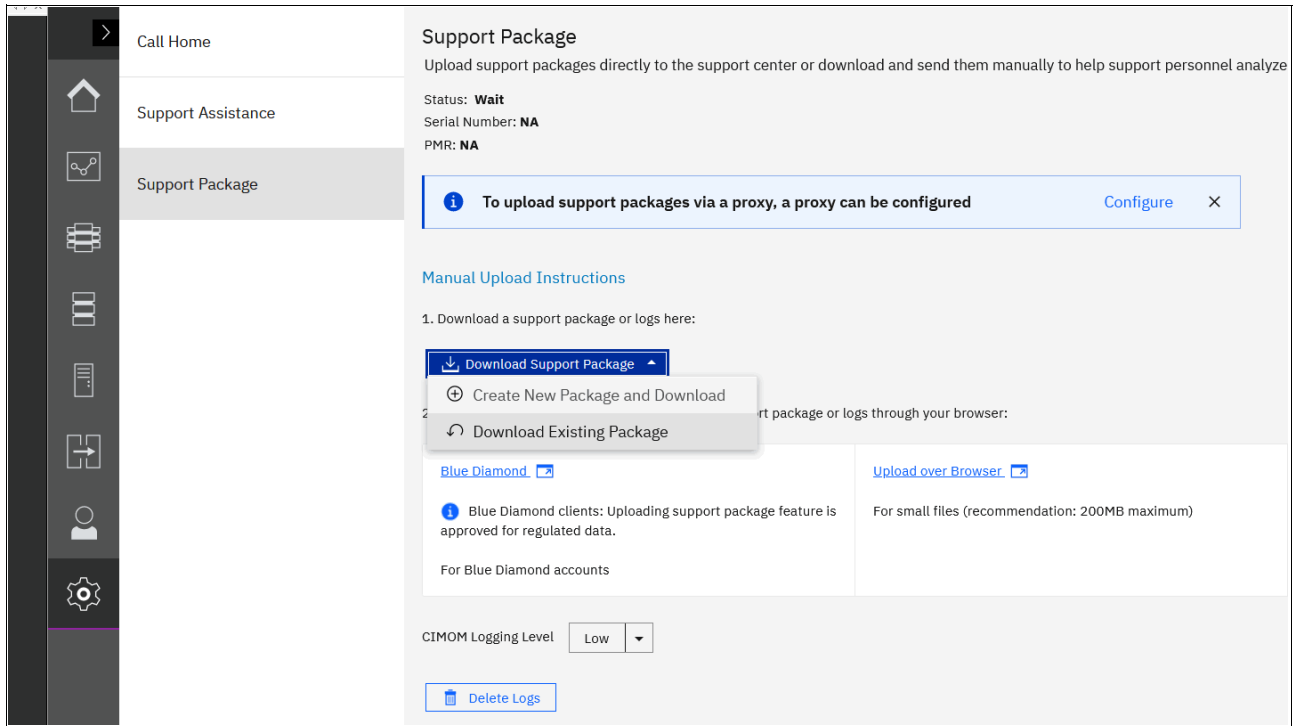

Figure 13-12 Download Existing Package
3. Click **Download Existing Package**, as shown in Figure 13-12 on page 811.